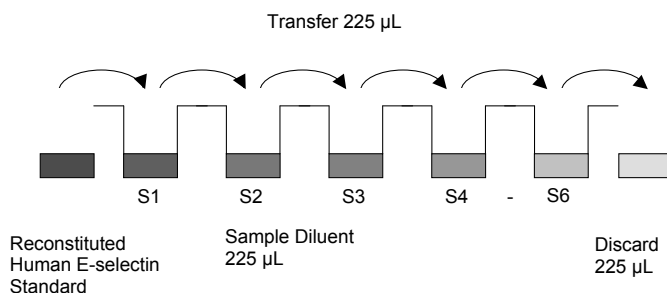

Fig. 5 Dilute standards - tubes.
5. Repeat serial dilutions 4 more times thus creating the points of the standard curve (see Figure 5).